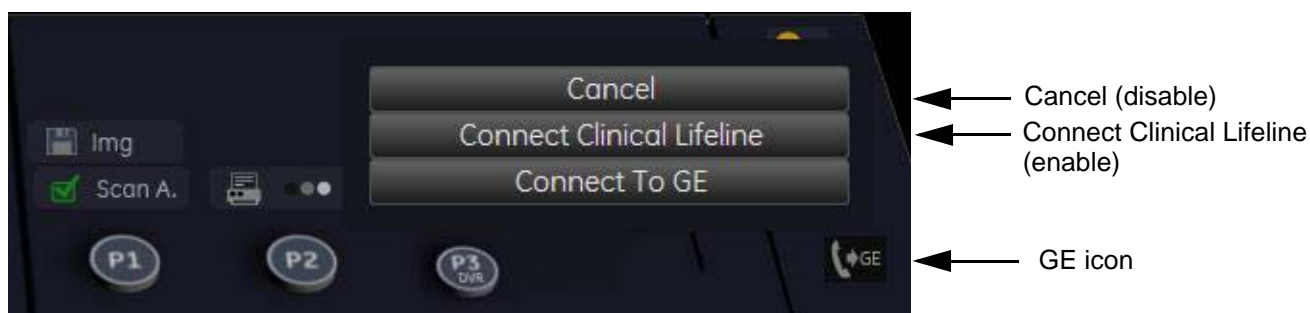

Figure 5-24 Connect Clinical Lifeline
- 3.) Select **Connect Clinical Lifeline** (see: Figure 5-24 below).